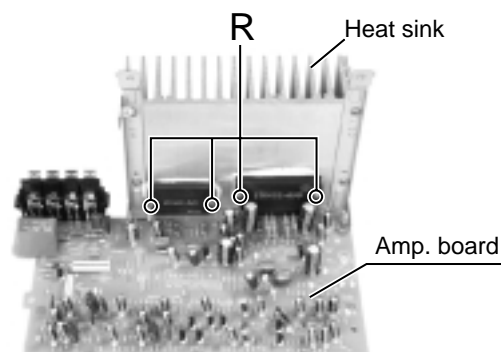

Fig.15
■ Removing the power ICs (See Fig.15 and 16)